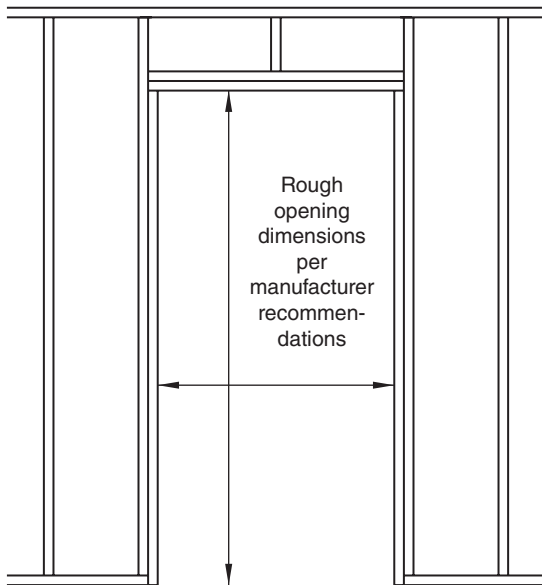

Figure 24 – Rough opening shown in wood stud
10.1 Build rough opening (see Figure 24) according to dimensions and clearances in frame manufacturer's installation instructions.